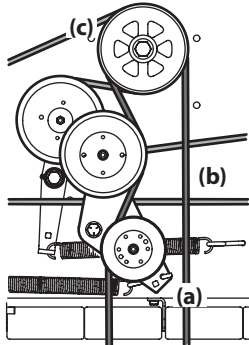

Figure 50
3. Using a 1/2" drive in the idler pulley bracket (a), turn the wrench towards the right of the mower and slide the PTO belt (b) off the PTO pulley (c). See Figure 50.